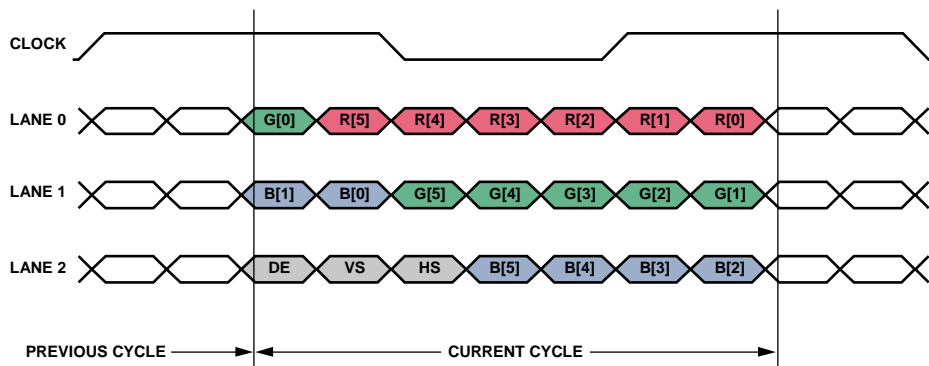

Figure 61. OpenLDI Mapping with 6-Bit Color Depth
Figure 61 shows OpenLDI bitmapping with the 6-bit color depth that the ADV7613 can output. In this mode, the data is packed into three data lanes, carrying six bits for each color component along with the video timing controls—that is, active data enable (DE), vertical synchronization (VS), and horizontal synchronization (HS). The clock channel does not have a 50% duty cycle; instead, its falling edge is aligned to the start of the third component in the cycle, and its rising edge is aligned to the start of the sixth component in the cycle.